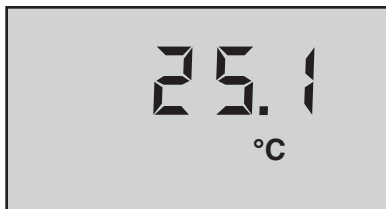

Figure 43
9. The temperature value measured by the PS6SI and “°C” or “°F” will display (see example in Figure 43).